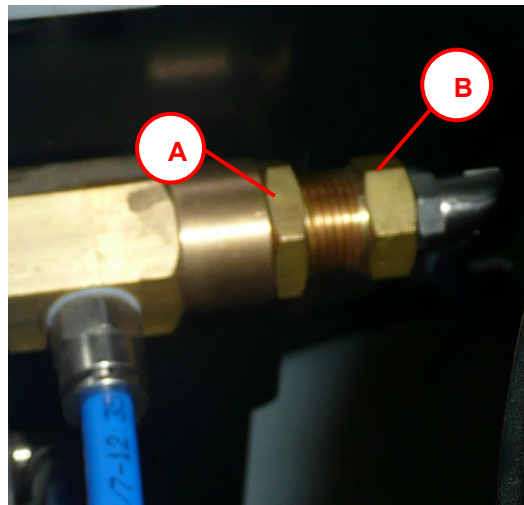

Figure 11.2-1 Adjusting maximum pressure pneumatic circuit
5. Unscrew with wrench 22 mm in, the nut (Letter A in Figure 11.2-1); Air filter area:
6. If you want to increase the maximum pressure must tighten with 19 mm wrench, nut (Letter B in Figure 11.2-1);
7. If you want to reduce the regime min unscrew, with a 19 mm wrench, nut (Letter B in Figure 11.2-1);
8. Once the adjustment screw, with a 22 mm wrench, nut (Letter A in Figure 11.2-1);